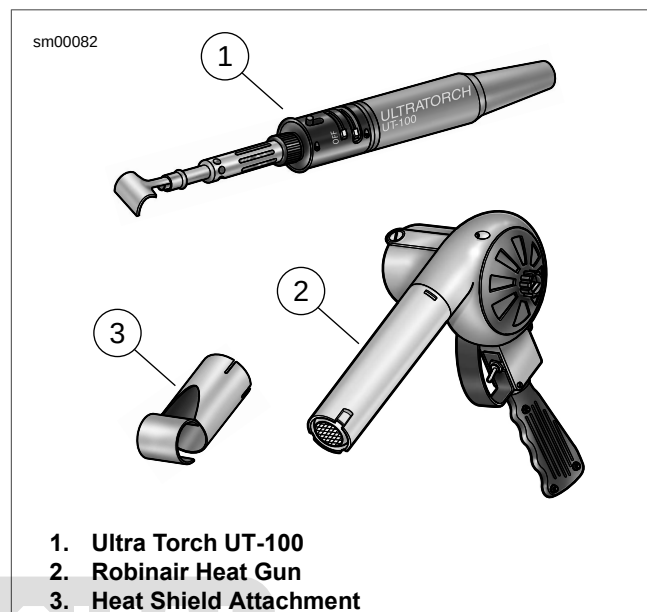

Figure 6-135. Radiant Heating Devices
6. See Figure 6-135. Use ULTRA TORCH UT-100 (Part No. HD-39969) or ROBINAIR HEAT GUN (Part No. HD-25070) with HEAT SHIELD ATTACHMENT (Part No. HD-41183) or equivalent. Uniformly heat the heat shrink tubing to insulate and seal the soldered connections. Apply heat just until the meltable sealant exudes out both ends of tubing and assumes a smooth cylindrical appearance.